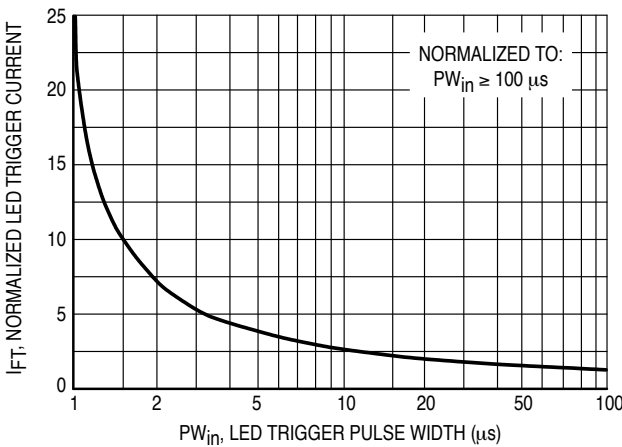

Figure 4. LED Current Required to Trigger versus LED Pulse Width
Random Phase Triac drivers are designed to be phase controllable. They may be triggered at any phase angle within the AC sine wave. Phase control may be accomplished by an AC line zero cross detector and a variable pulse delay generator which is synchronized to the zero cross detector. The same task can be accomplished by a microprocessor which is synchronized to the AC zero crossing. The phase controlled trigger current may be a very short pulse which saves energy delivered to the input LED. LED trigger pulse currents shorter than $100\ \mu\text{s}$ must have an increased amplitude as shown on Figure 4. This graph shows the dependency of the trigger current I_{FT} versus the pulse width t (PW). The reason for the I_{FT} dependency on the pulse width can be seen on the chart delay $t(d)$ versus the LED trigger current.